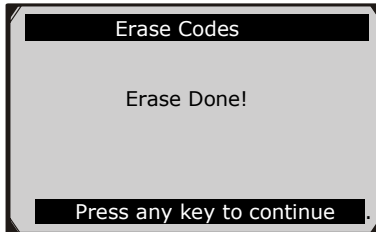

Figure 6.7
- If the codes are cleared successfully, an “Erase Done!” confirmation message shows on the display.(Figure 6.7)